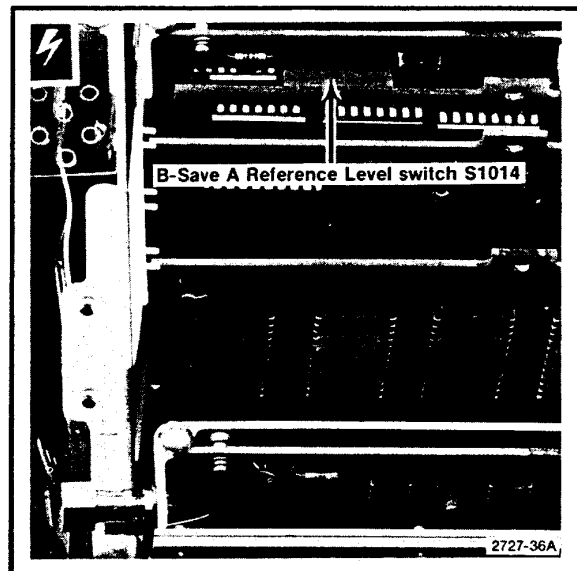

Fig. 3-48. Location of binary switch (S1014) for setting B—SAVE A reference level.
When B—SAVE A is selected, the expression implemented is  $(B - \text{SAVE A}) - k$  where  $k$  is a constant set by the input data for an 8-to-4 line encoder, U1015. Each bit will move the reference level about 0.2 minor division. Normally, the reference level is set at the center graticule line; however, it can be set anywhere within the graticule area by the setting of an 8-bit binary switch, S1014 (Fig. 3-48). The MSB (switch #8) shifts the display about five divisions, switch #7 half this amount, etc. The following procedure sets the reference level.
b. Switch the POWER on and close or open the switches on S1014 (Fig. 3-48) to obtain the desired B—SAVE A reference level.
- z. Peak the 19 GHz signal with Shaper #3, R1061, adjustment (Fig. 3-48).